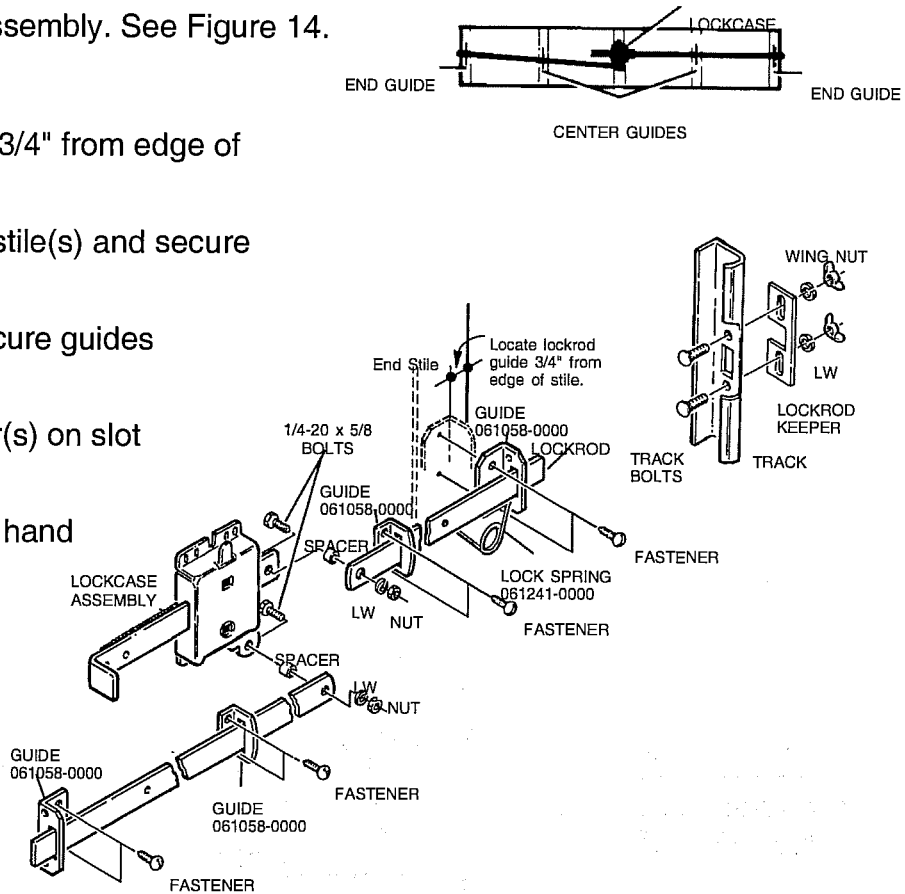

Figure 14
1. Secure lockrod(s) to lockcase assembly. See Figure 14.